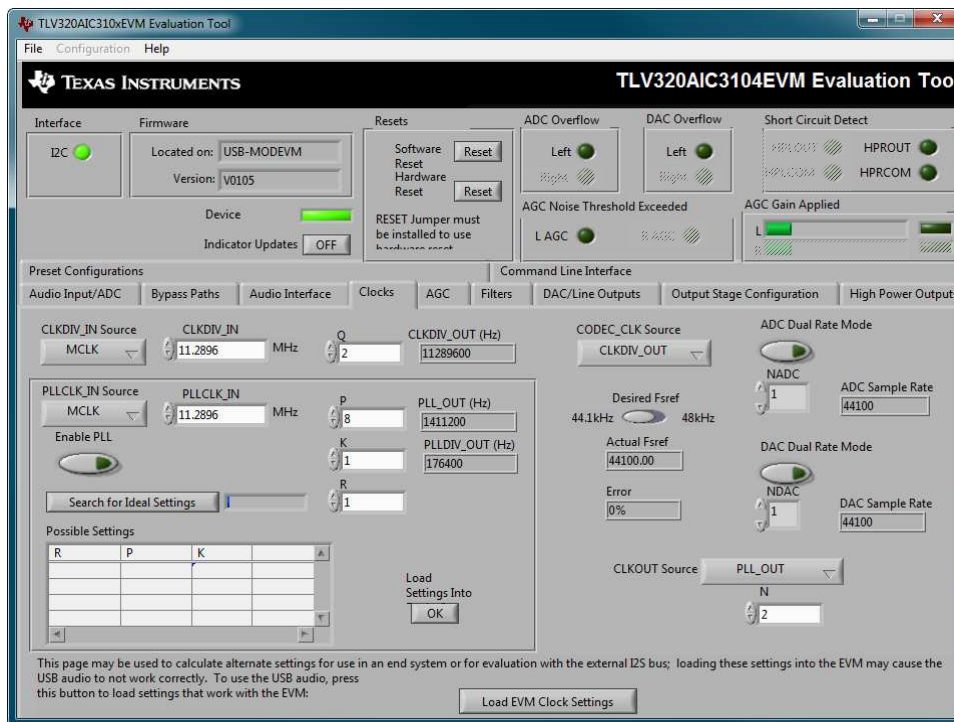

Figure 12. Clocks Tab
For use with the PC software and the USB-MODEVM, the clock settings must be set a certain way. If the settings are changed from the default settings which allow operation from the USB-MODEVM clock reference, the EVM settings can be restored automatically by pushing the **Load EVMS Clock Settings** button at the bottom of this tab. Note that changing any of the clock settings from the values loaded when this button is pushed may result in the EVM not working properly with the PC software or USB interface. If an external audio bus is used (audio not driven over the USB bus), then settings may be changed to any valid combination. The **Clocks** tab is shown in Figure 12.
3. Push the **Search for Ideal Settings** button. The software will start searching for ideal combinations of **P**, **K**, and **R** which achieve the desired **Fsref**. The possible settings for these parameters are displayed in the spreadsheet-like table illustrated in Figure 12, labeled *Possible Settings*.